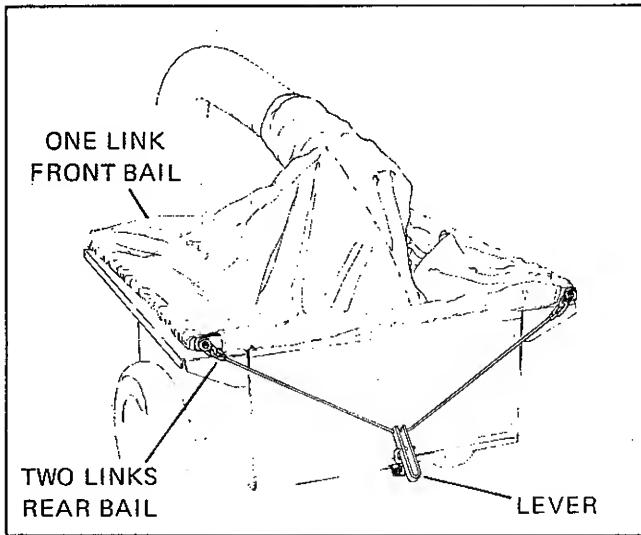

FIGURE 16
- Insert each bail through slotted hole in lever and center the lever on the bail (Figure 16).
- Attach one link to each end of one bail and two links to each end of other bail (Figure 16). The bail with two links each will be placed later at rear of cart and the bail with one link each at the front.
- Lay cover assembly on cart with canvas side flaps inside and cover nozzle toward cart drawbar. Be sure pins are inserted completely into side panel outside holes (Figure 16).